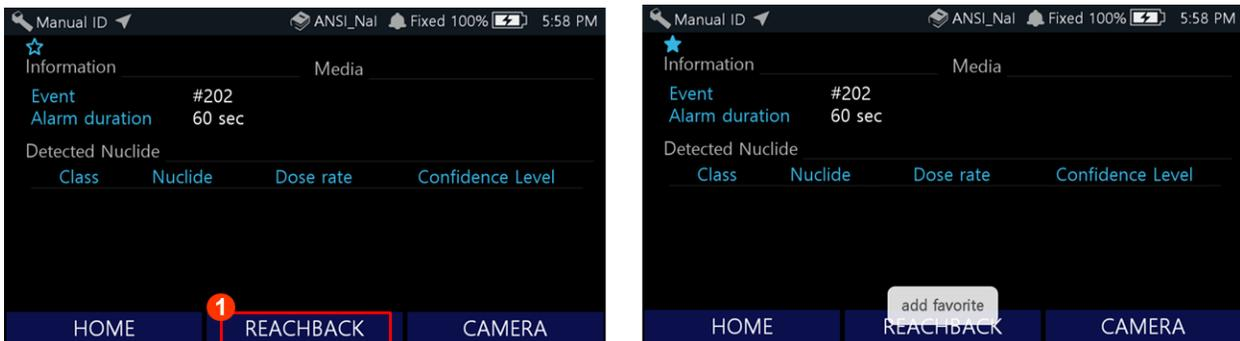

Figure 5.10.1. Add Favorite Example
1. At the end of Manual ID, the ID report screen is showed up as shown in figure 5.10.1.